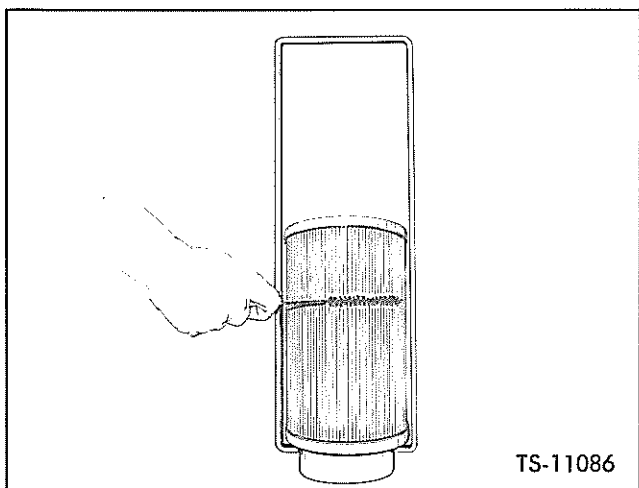

Fig. 32. Clean Filter Element with Stiff Bristled Brush
3. Immerse filter element in hot soapy water. Soak and intermittently agitate element and relief valve components for approximately 30 minutes loosen dirt particles. Remove any remaining deposits between element pleats with a stiff bristled non-metallic brush as shown in Figure 32. Flush element and relief valve components with clean hot water until drain water is clear.